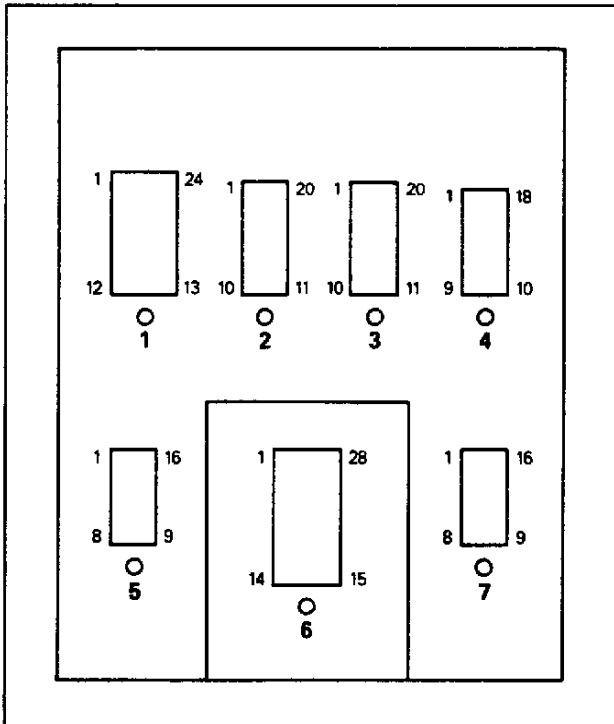
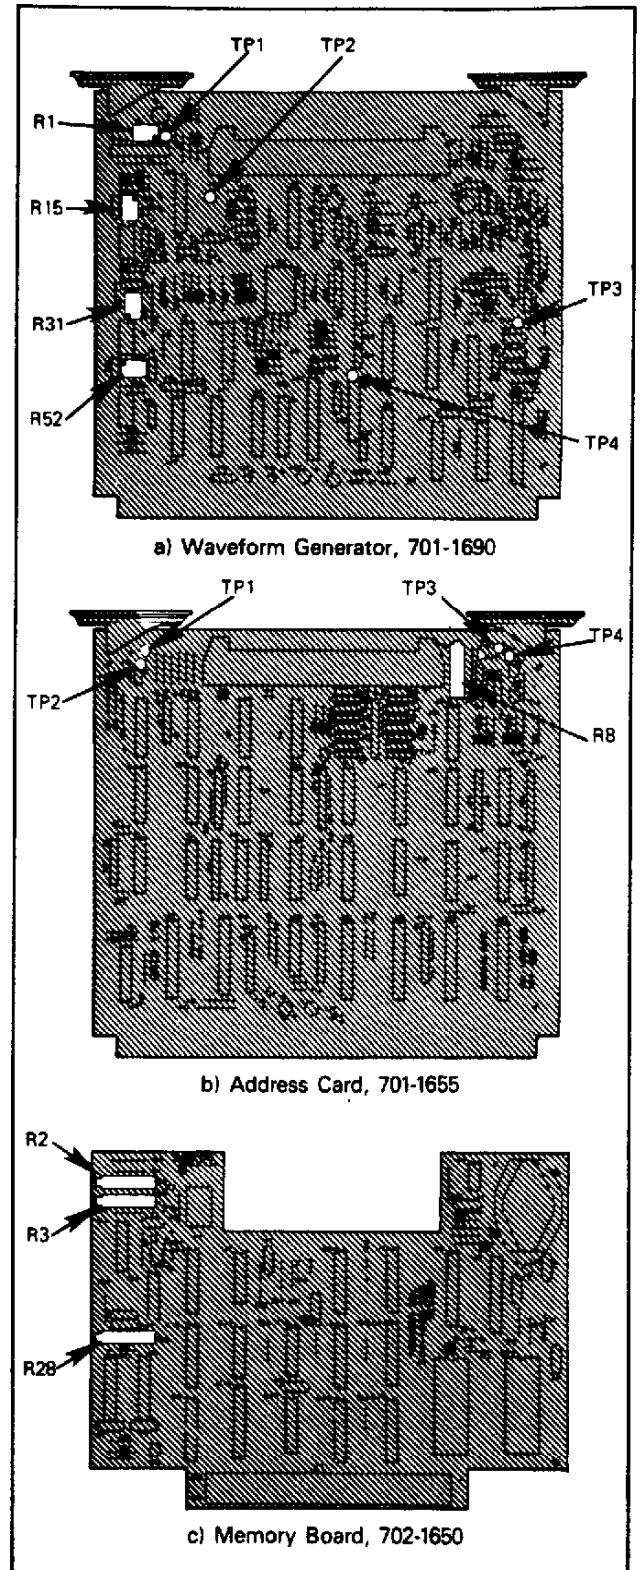

Figure 5-2. Pin Numbers of Device Sockets
Figure 5-3. Adjustment Locations
- o Take measurement readings at the device sockets or test points indicated on the measurement chart; figure 5-2 shows the pin numbers for the sockets; figure 5-3 shows test points.
- o The adjustment pots on the waveform generator, memory board, and the address card enable you to make adjustments when your measurements do not match the measurement chart; figure 5-3 shows the location of these adjustment points.